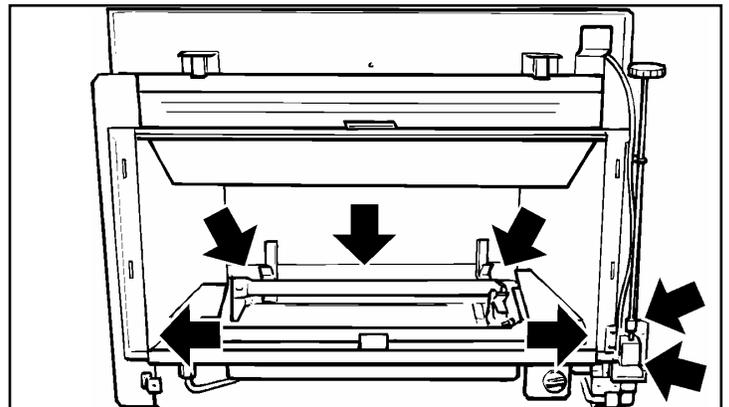

Fig. 33 Burner module disconnection points
- 7.2.8 Detach the burner module by removing 7 screws (Fig. 33)